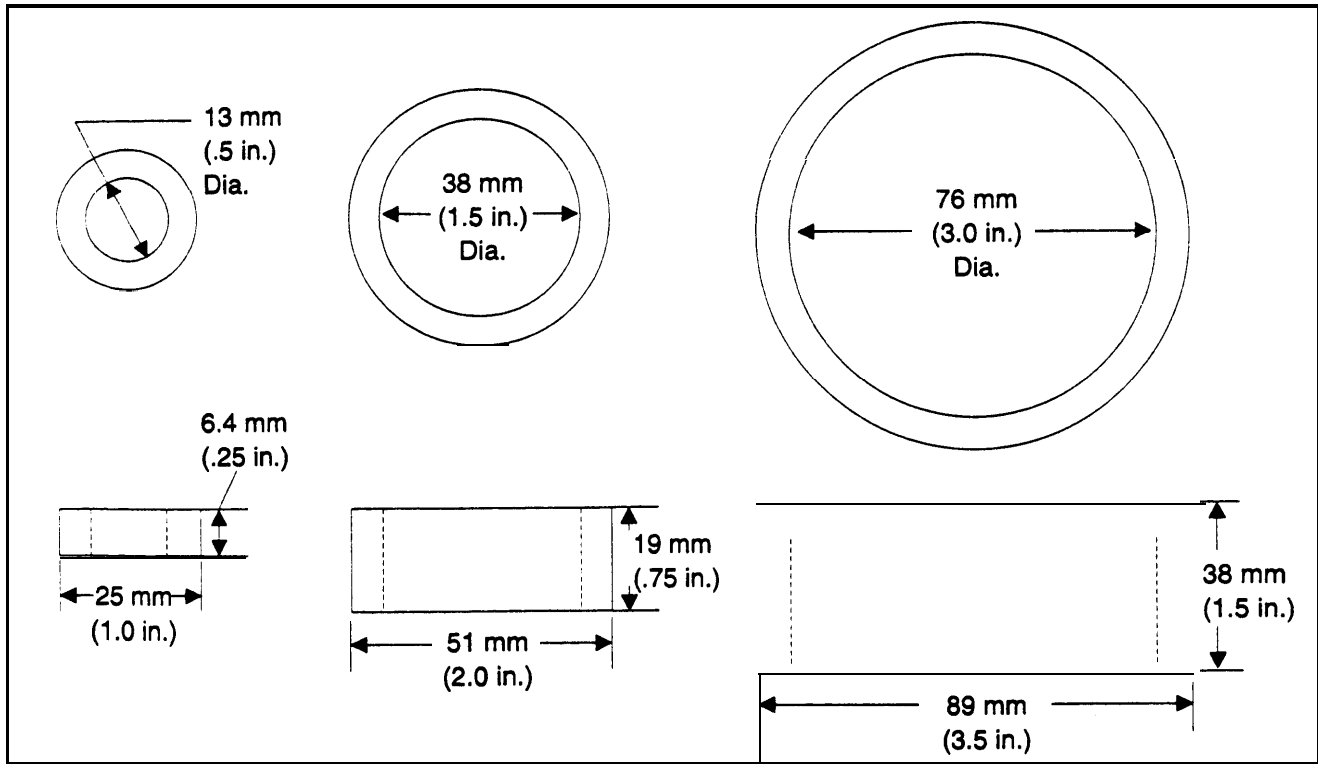
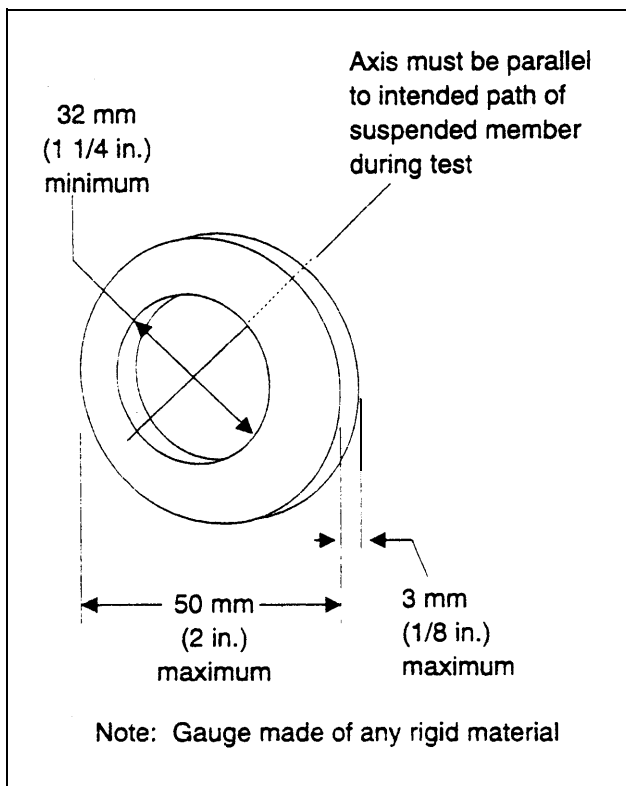

Figure 4-3: Set of three protrusion inspection gauges.
Figure 4-4: Protrusion gauge for swing seats and hardware.
- f. *Set of Three Protrusion Inspection Gauges (fig 4-3)\*.*
- g. *Protrusion Gauge for Swing Seats and Hardware (fig 4-4) \*.*
Hardware, pipes, posts, or other structural members that extend in any direction from play equipment, site elements, or site furnishings should be inspected with the set of three protrusion gauges (fig 4-3). A separate protrusion gauge is used to inspect swing seat and swing hardware protrusions (fig 4-4). A measuring tape or ruler is also required. A protrusion is considered inaccessible and exempt from protrusion requirements when recessed or located so that a protrusion gauge cannot be placed over it.
e. *Inspection Procedure for Swing Seat and Swing Hardware Protrusions.* The swing protrusion test gauge should be placed over the protrusion (fig 4-4). To